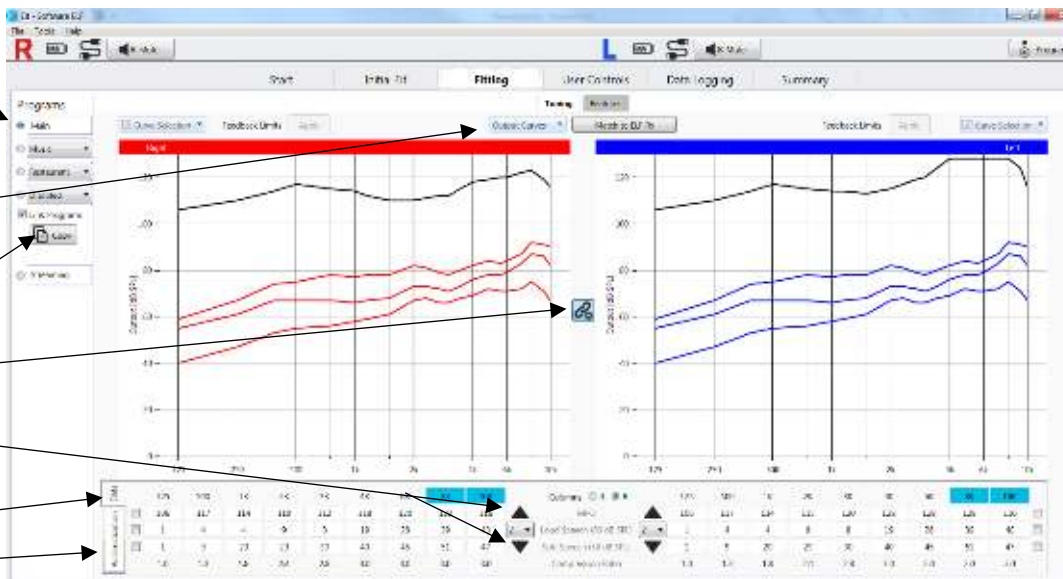
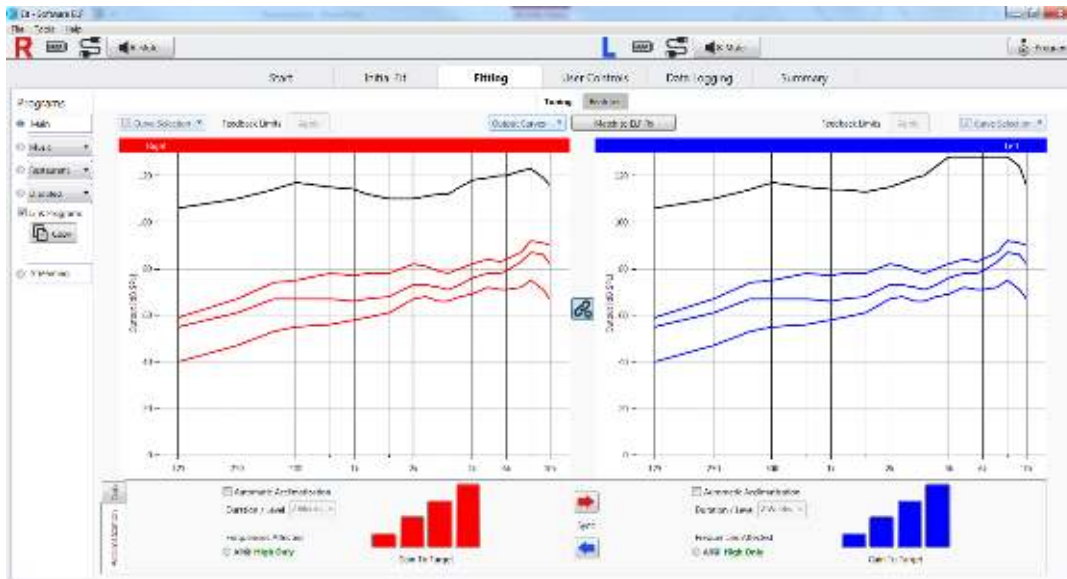
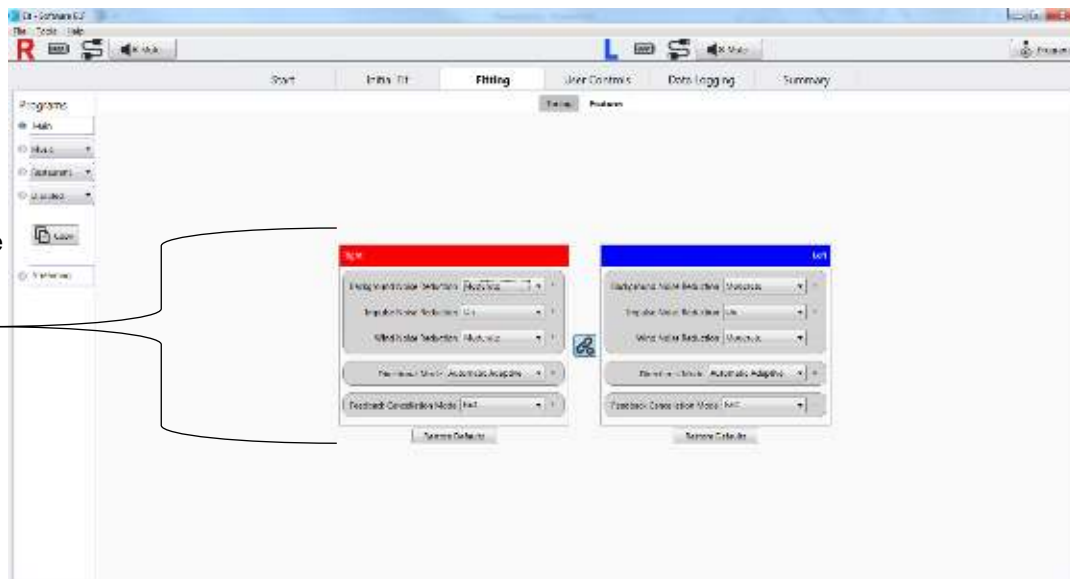

Figure 11. Fitting screen: Fine Tuning data tab
Figure 12. Fitting screen: Fine Tuning Acclimatization tab
Figure 13. Fitting screen: Features
- **Fitting:** Fine-tune the frequency response of the Processor (Figure 11), access automatic or manual acclimatization (Figure 12) and modify feature settings (Figure 13).